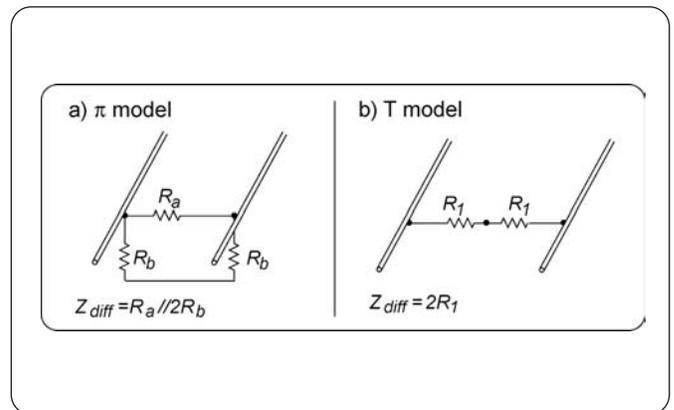
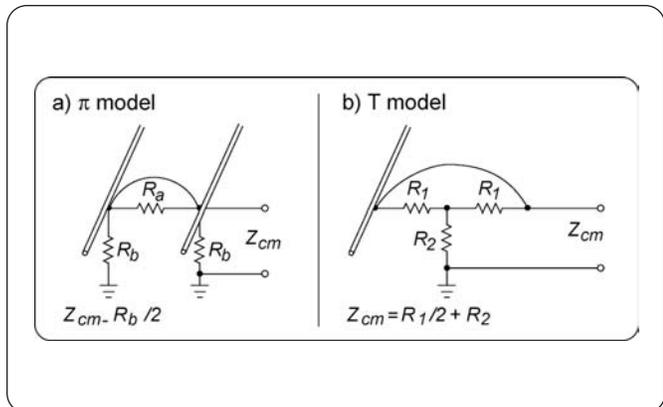
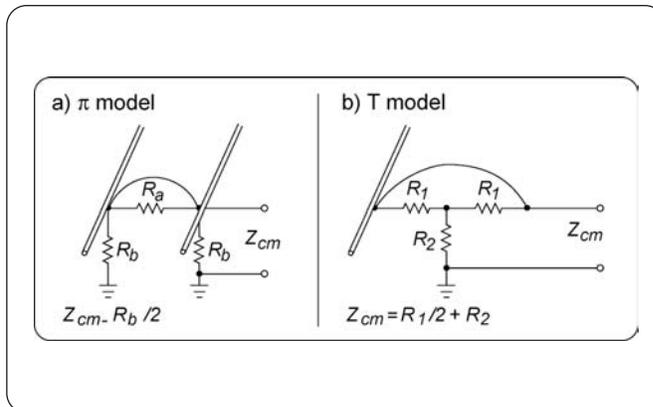
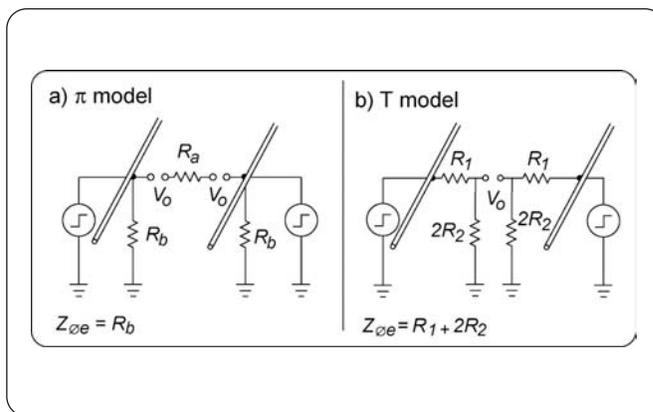

Figure 3. Models for measuring the Differential Impedance
Figure 4. Models for measuring the Common-mode Impedance
Figure 5. Models for calculating the Odd-mode Impedance
Figure 6. Models for Calculating the Even-mode Impedance
**Differential impedance,  $Z_{diff}$ ,** is the impedance between the two conductors. Figure 3 shows the respective  $\pi$  and T models used to calculate the differential impedance ( $Z_{diff}$ ).  $Z_{diff}$  equals  $R_a // (2R_b)$  ( $\pi$  model) or  $2R_1$  (T model). In the special situation for which there is no coupling to ground, Differential impedance equals the Characteristic impedance,  $Z_0$ .
**Common-mode impedance,  $Z_{cm}$ ,** is the impedance between the two conductors and ground when the conductors are connected to each other. Figure 4 shows the equivalent  $\pi$  and T models used to calculate  $Z_{cm}$ .  $Z_{cm}$  equals  $R_b/2$  ( $\pi$  model) or  $R_1/2 + R_2$  (T model).
**Odd-mode impedance,  $Z_{\phi_o}$ ,** is the impedance of one conductor to ground when the pair is driven differentially. Odd-mode impedance and Even -mode impedance (defined below) are often used in the design of transmission lines, especially in microwave technology. Figure 5 displays the equivalent  $\pi$  and T models used to calculate Odd-mode impedance.  $V_g$  represents the virtual ground created by the line when conductors are driven with opposite polarities. The models show that Odd-mode impedance,  $Z_{\phi_o}$ , is equal to  $(R_a/2) || R_b$  ( $\pi$  model) or to  $R_1$  (T model).
Even-mode impedance,  $Z_{\phi_e}$ , is the impedance of one conductor to ground when the pair is driven with equal polarity signals. Figure 6 shows the equivalent  $\pi$  and T models needed to calculate Even-mode impedance.  $V_o$  represents the virtual open created by the line when conductors are driven with same signal and no current flows between them. The models show that Even-mode impedance  $Z_{\phi_e} = R_b$  ( $\pi$  model) or  $Z_{\phi_e} = R_1 + 2R_2$  (T model).
Impedance relationships: Comparing Figure 5 with Figure 3 and Figure 6 with Figure 4 shows the following equivalences:
The Define Math dialog box can transform the acquired Odd-mode waveforms into a new math waveform of the Average-differential impedance, which equals the sum of the Odd-mode impedances (from Figure 3). The formula to enter follows:
The Define Math dialog box can also transform the Even-mode waveforms that the instrument acquired into a new math waveform of the Average common-mode impedance. This impedance is equal to the two Even-mode impedances in parallel (from Figure 6). The formula to enter follows: